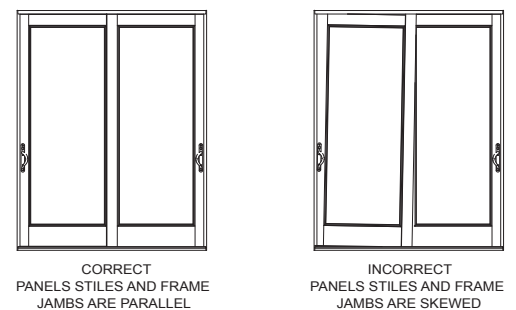

Figure 11
5. To raise panels, pick up the panel at the edge to relieve the weight pressure on the wheels and then adjust by turning adjustment screw clockwise. To lower panels turn adjustment screws counter clockwise then use weight pressure on the panel to set the wheels to the new adjustment level. (See Figure 11)